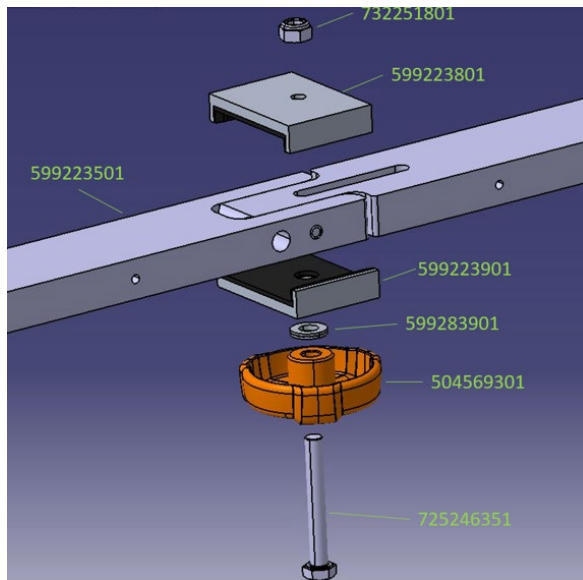

Figure 7:
6. Put the upper half 599223801 and the lower half 599223901 of the clamp onto the handle arm and tighten them with screw M8x60 725246351, knob 504569301 and Nyloc nut 732251801 (figure 7). Place the Nordlock washer 599283901 between the knob and the lower part of the clamp. The head of the bolt needs to be pressed into correct position in the knob. Only use low to moderate force.